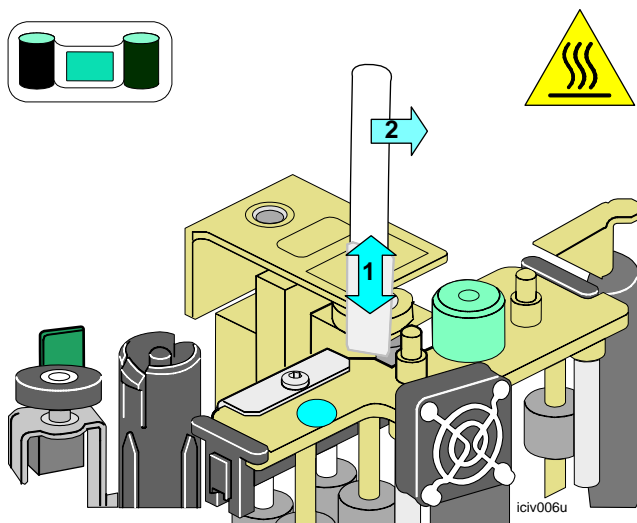

Figure 7-12: Clean the heated roller
- a Push the cleaning stick up and down on the heated roller (step 1 in Figure 7-12).
- b Use the cleaning stick to move the heated roller counterclockwise and make another area available for cleaning (step 2 in Figure 7-12).